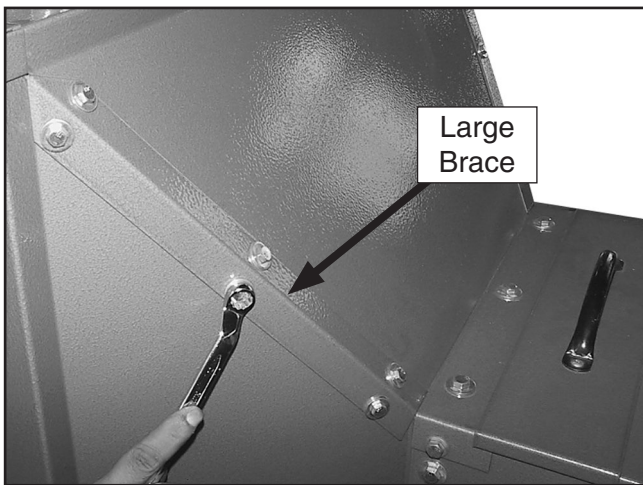

Figure 10. Installing large brace over skew board seams.
- Fasten a large brace over the seam of the right and upper skew boards (**Figure 10**), using six $\frac{1}{4}$ "-20 x $\frac{1}{2}$ " hex bolts, 12 flat washers and six hex nuts.